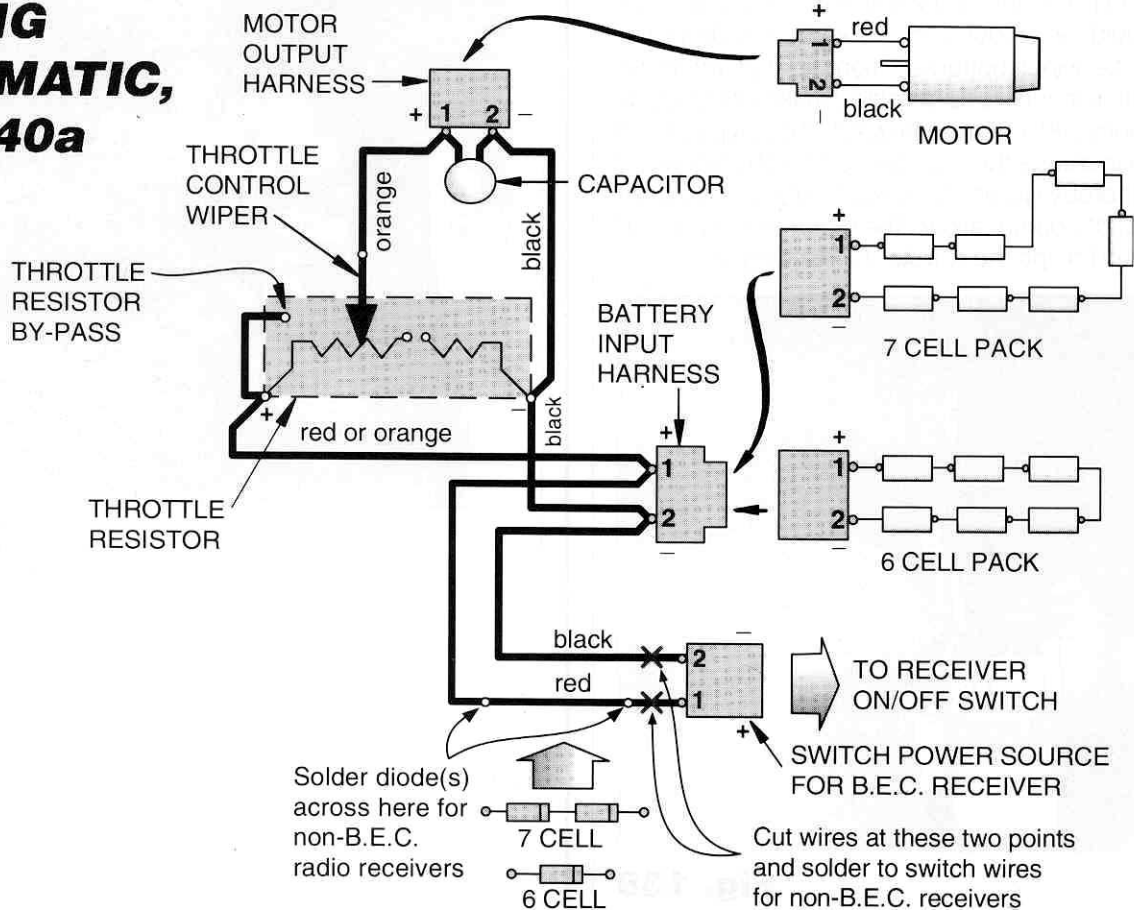

**Fig. 139**
□ **Fig. 139** We have installed the #6745 motor output portion of the wiring, now we will finish installing the #6747 battery/radio input power harness. It's in bag #6-13. Solder the larger red wire from the input power harness to the positive terminal of the throttle resistor (left side of photo), then solder the larger black wire to the negative terminal of the throttle resistor (right side of photo) Locate the on/off switch that came with your radio system. All name brand radios have gone to a standard plug system for the switch harness on B.E.C. radios. The small black and red wires on the power harness end in a small red male plug. This will plug into the female two pin plug end of the radio's on/off switch. The other male end of the on/off switch will plug into the radio receiver's battery socket. This setup will work for both 6 cell (7.2 volt) and 7 cell (8.4 volt) battery packs.